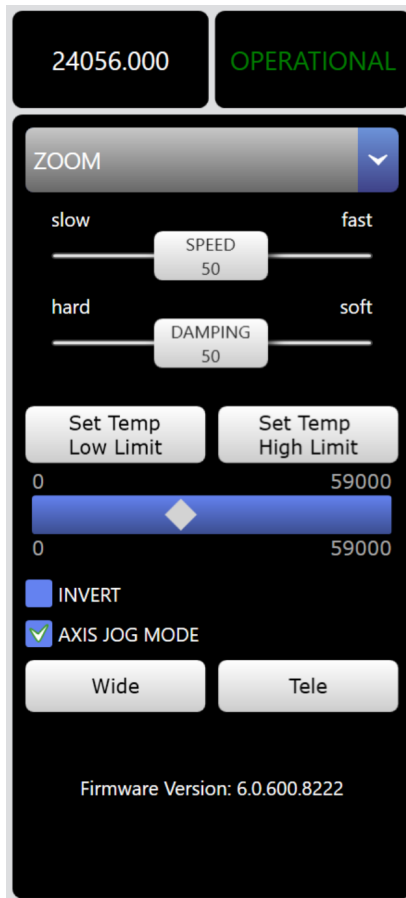

Figure 89 - Axis Control Panel
- In the **Axis Control** panel (Figure 89), tap the **axis list** to expand it and then tap the axis you want to configure.